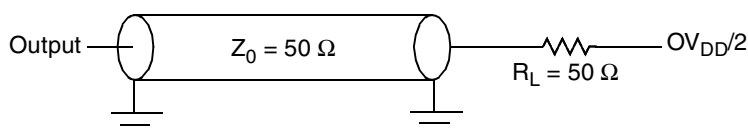

Figure 13. Local Bus C Test Load
Figure 13 provides the AC test load for the local bus.
1. All outputs are measured from the midpoint voltage of the falling/rising edge of  $t_{TCLK}$  to the midpoint of the signal in question. The output timings are measured at the pins. All output timings assume a purely resistive 50-Ω load (see Figure 13). Time-of-flight delays must be added for trace lengths, vias, and connectors in the system.
2. The symbols used for timing specifications follow the pattern of  $t_{(first\ two\ letters\ of\ functional\ block)(signal)(state)(reference)(state)}$  for inputs and  $t_{(first\ two\ letters\ of\ functional\ block)(reference)(state)(signal)(state)}$  for outputs. For example,  $t_{JTDVKH}$  symbolizes JTAG device timing (JT) with respect to the time data input signals (D) reaching the valid state (V) relative to the  $t_{JTG}$  clock reference (K) going to the high (H) state or setup time. Also,  $t_{JTDXKH}$  symbolizes JTAG timing (JT) with respect to the time data input signals (D) went invalid (X) relative to the  $t_{JTG}$  clock reference (K) going to the high (H) state. Note that, in general, the clock reference symbol representation is based on three letters representing the clock of a particular functional. For rise and fall times, the latter convention is used with the appropriate letter: R (rise) or F (fall).